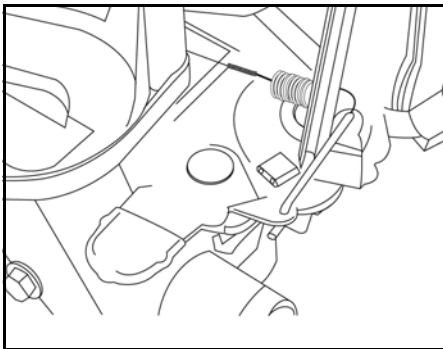

Figure 32
3. Using Tachometer #19200 or #19389, and Tang Bender #19229 or #19352, bend Top No Load spring tang to obtain correct Top No Load RPM (Figure 32).